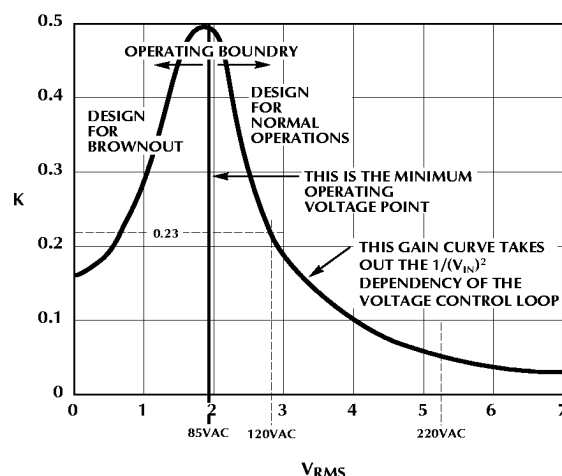

Figure 6. K-factor. Gain Modulator gain with respect to the voltage at VRMS.
The ML4821 gain modulator responds linearly to current injected into the I_{SINE} pin, and in an inverse-square fashion to voltage on the V_{RMS} pin. At very low voltages on the V_{RMS} pin, the gain modulator enforces a power limit, or "brown-out protection", upon the overall PFC circuit (Figures 6 and 7). The rectified line input sine wave is converted to a current for the I_{SINE} input via a dropping resistor. In this way, most ground noise produces an insignificant effect on the reference to the PWM comparator. This gives the ML4821 a high degree of immunity to the disturbances common in high-power switching circuits.
Figure 6 shows the gain adjuster (K) with respect to the voltage at V_{RMS} . The curve has been separated in two parts. The right hand part is for operation under normal conditions in the voltage range from minimum line voltage to maximum line voltage (90VAC to 260VAC). 85VAC on the curve has been chosen to account for tolerances. Under normal operating conditions as input voltage decreases the gain increases compensating for the drop in the loop gain.